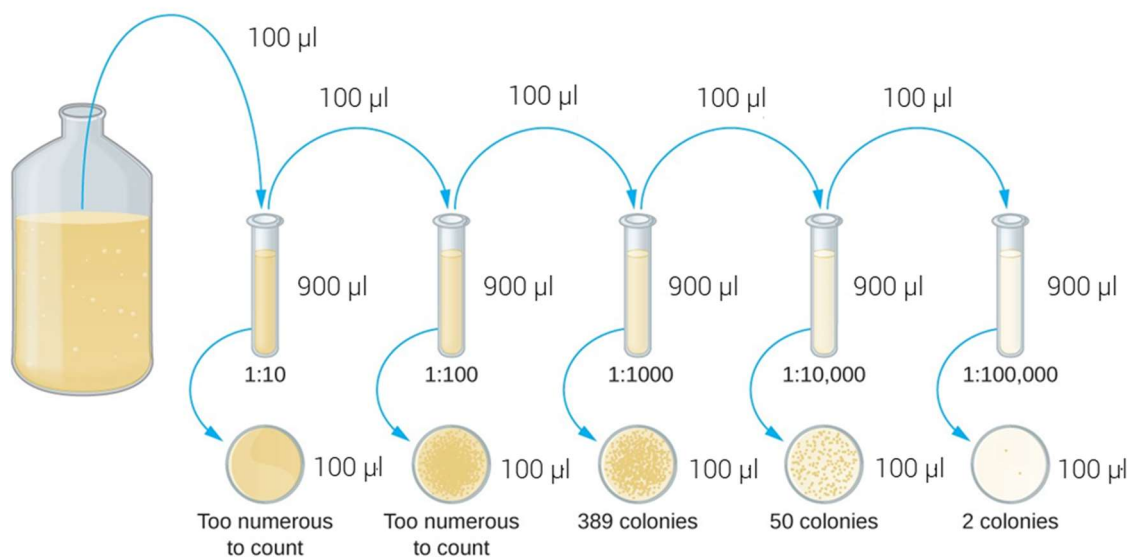

Figure 1: Graphical representation of 1:10 serial dilutions for calculating CFU on plate.
13. Perform 1/10 serial dilutions, transferring 100 µL of the spore suspension from tube to tube, after homogenization of the suspension with a mixer. If you do not have a mixer, do it with the micropipette (Figure 1).
5. Place six (6) sterile glass beads, 2-3 mm in diameter.
9. Perform serial dilutions 1/10, transferring 100 µL of the spore suspension from tube to tube, after homogenization of the suspension with a mixer. If you do not have a mixer, do it with the micropipette (Figure 1).
7. Perform serial dilutions 1/10, transferring 100 µL of the spore suspension from tube to tube, after homogenization of the suspension with a mixer. If you do not have a mixer, do it with the micropipette (Figure 1).